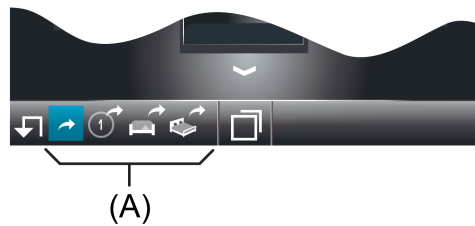

Figure 17: Example of Quicklinks
In the footer of the display screen, Quicklinks can be displayed in the Quicklink bar (A) (figure 17). Quicklinks are operating elements with an icon display, which allow an internal open page. Quicklinks are always visible and therefore available on any display page. Up to four Quicklinks are possible in the Quicklink bar.